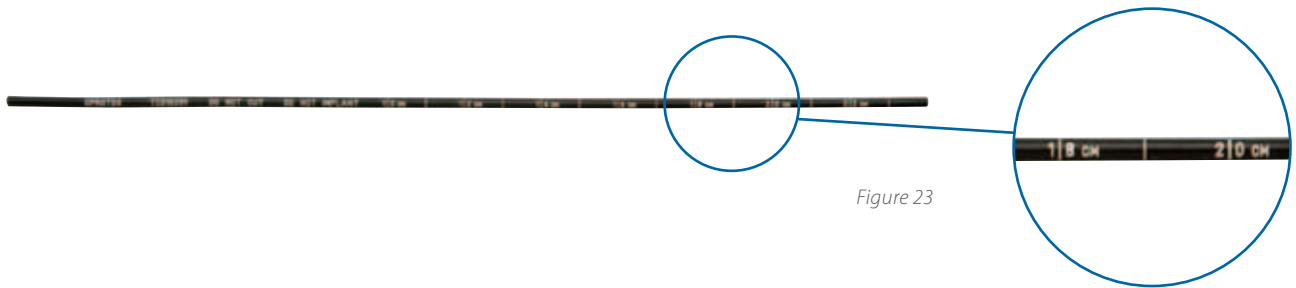

Figure 23
*The Rod Template has markings that can help determine the appropriate length of the entire construct (**Figure 23**).*